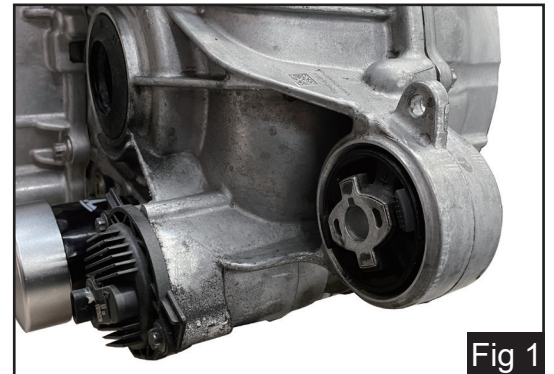

Fig 1
- 1 Locate the bushing house (Fig. 1)